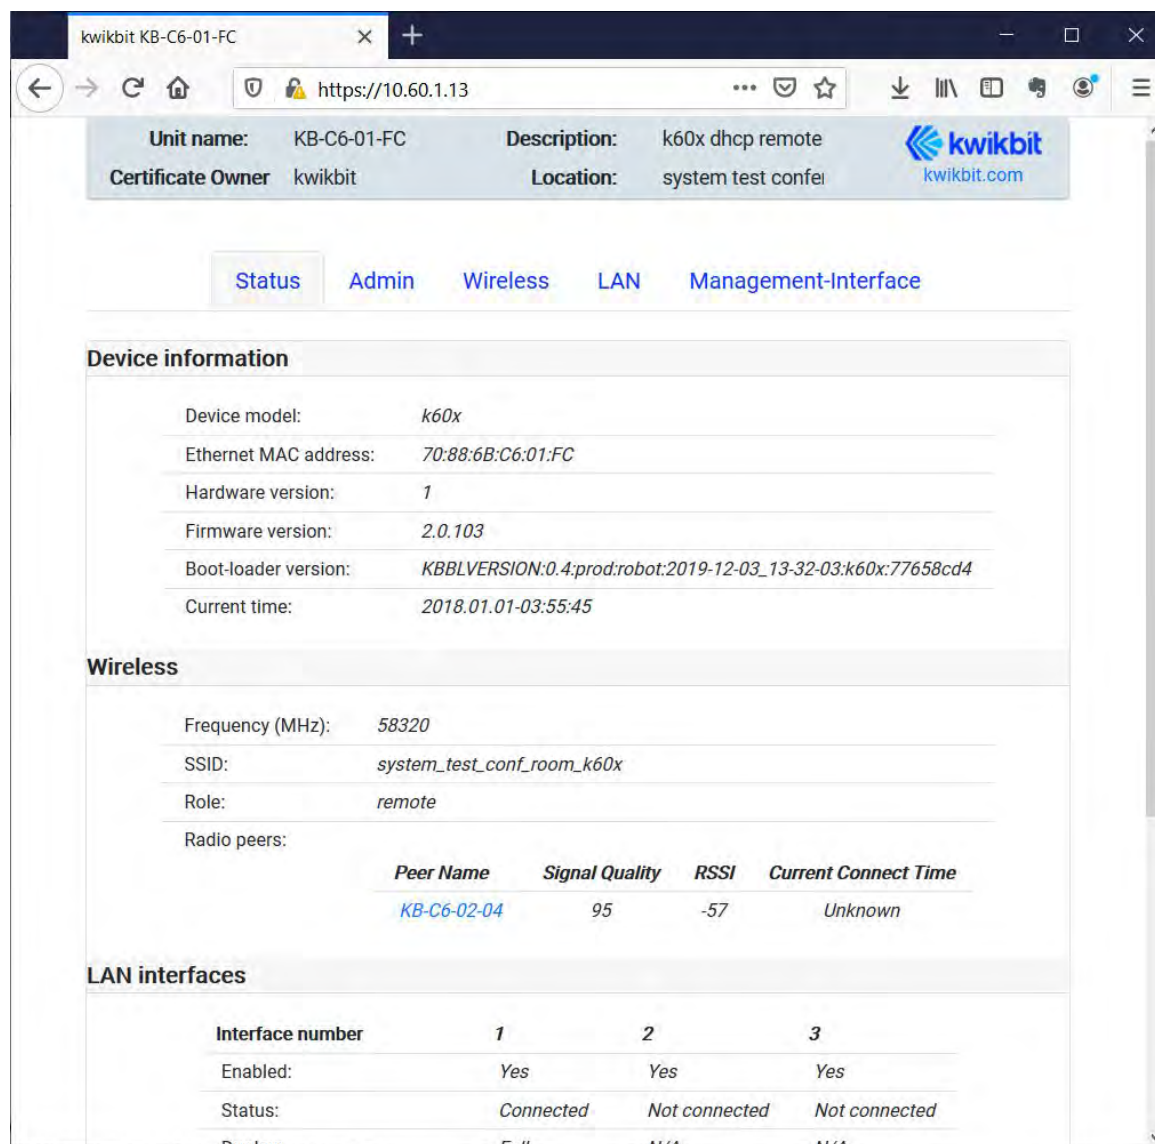

Figure 2: K60x Hub and Remote WebUI interface page
1. Device configuration information and status is displayed on the WebUI page interface as shown above in Figure 2. When the mouse cursor is hovered over an Ethernet Port or wireless connections icon, detailed information is displayed. In the Wireless section, the list of wirelessly connected devices is displayed. The list of LAN connected devices is displayed in the LAN Peers section. The WebUI of a connected device is established by clicking on the device's name.